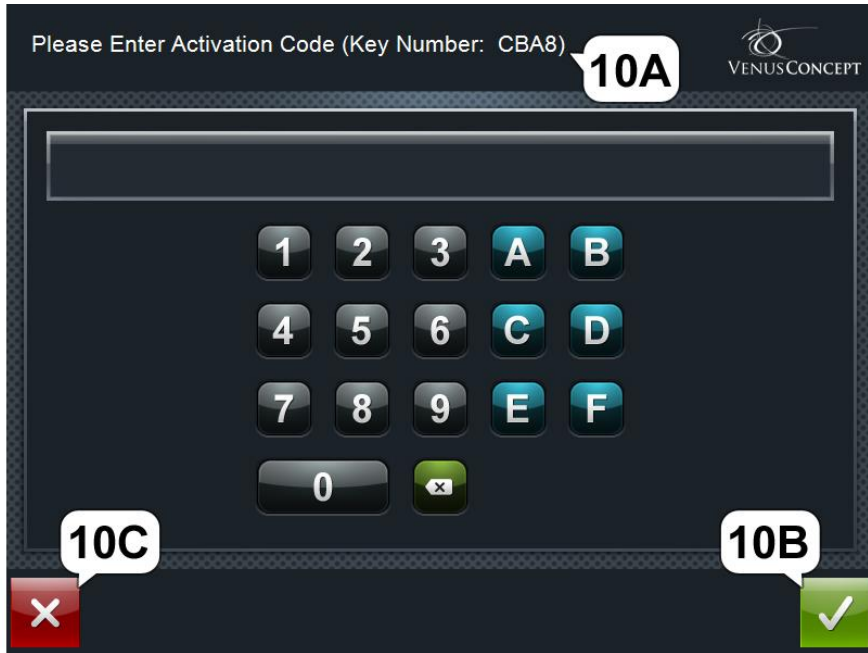

Figure 5-12: Activation Code screen
- i. Press the *Activation Code* button. A new window will be displayed (see Figure 5-12), displaying a 4-character Key number (marked 10A).